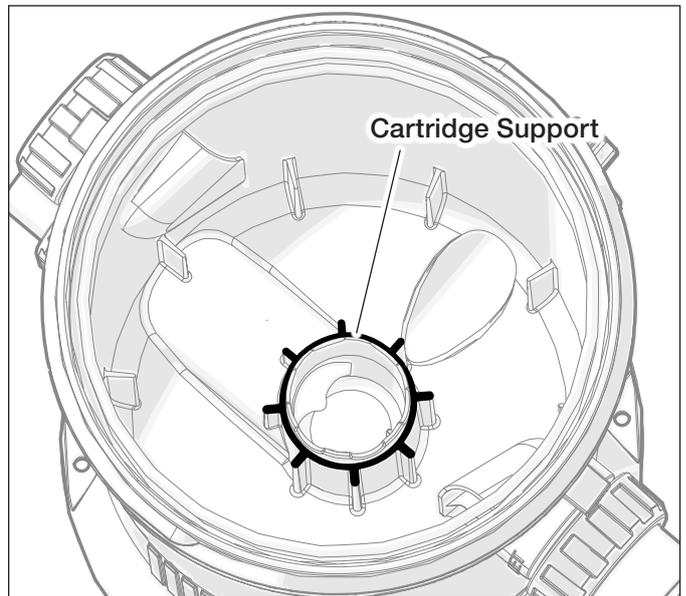

Figure 17. Cartridge Support
- Using a new or cleaned cartridge, place the cartridge into the filter tank. Be sure that the filter cartridge is correctly seated on the cartridge support at the bottom spigot of the filter main body (Figure 17).